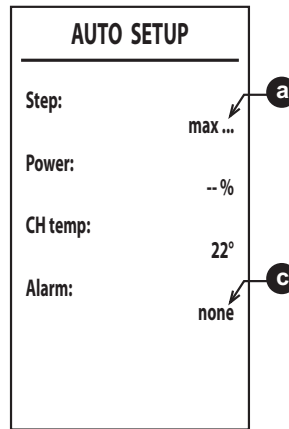

fig. 38
6. After ignition, the burner goes to the various powers (max, med, min) indicated by point **a** (fig. 38).
8. If the ignition sequence described in point "6" is not successful, the display shows the message **max_err** at point **a** and an error code at point **c** (fig. 38).